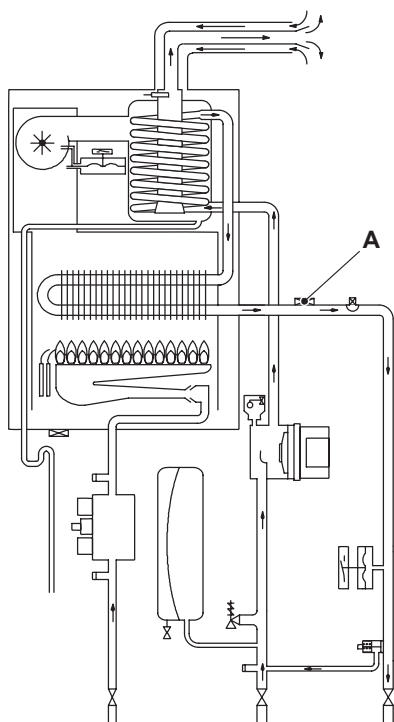
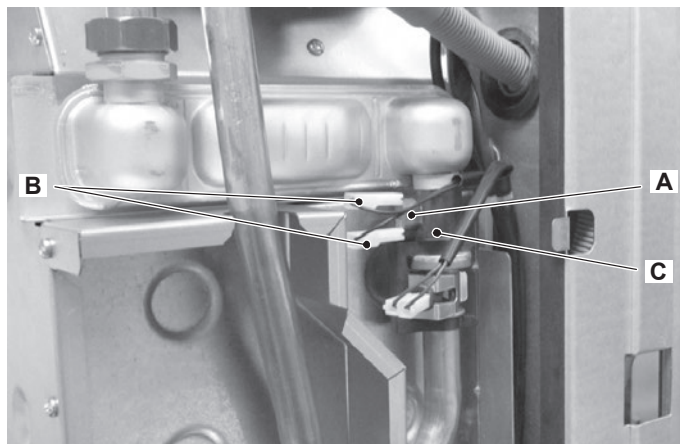

Figure 16.1
Figure 16.2
The safety thermostat A in Figure 16.1 and Figure 16.2 is a device that senses the temperature of the primary circuit water which flows in the outlet pipe of the primary heat exchanger.
- 2 Disconnect the wiring B (Figure 16.2).